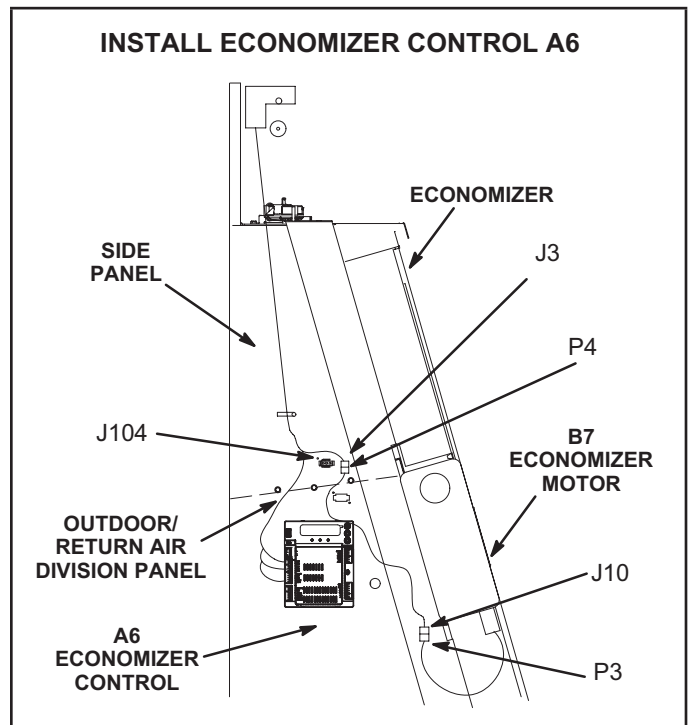

FIGURE 39
1-Install A6 economizer control on economizer side panel as shown in figure 39. Secure with #6-32 X 7/8" TFS screws provided.
- 1 - Locate 15-pin J3 unit control harness hanging on left side of filter compartment. See figure 39. Disconnect P3 jumper plug from J3 and retain jumper plug for future troubleshooting.
- 2 - Connect the 15-pin male plug P4 from the economizer control (A6) harness to the 15-pin female jack J3 on the unit control harness. See figure 39.
- 3 - Locate brown and yellow kit harness with wires labeled J104-1 & J104-2 on one end and A6-OAT, A6-COM, & A6-AUX-A1 on the other end. Insert the connector with wires labeled J104-1 & 2 into the opening on economizer side panel and snap into place. See figure 39.
- 4 - Connect the 15-pin female plug J10 to the 15-pin male plug P3 from the damper motor. See figure 39.